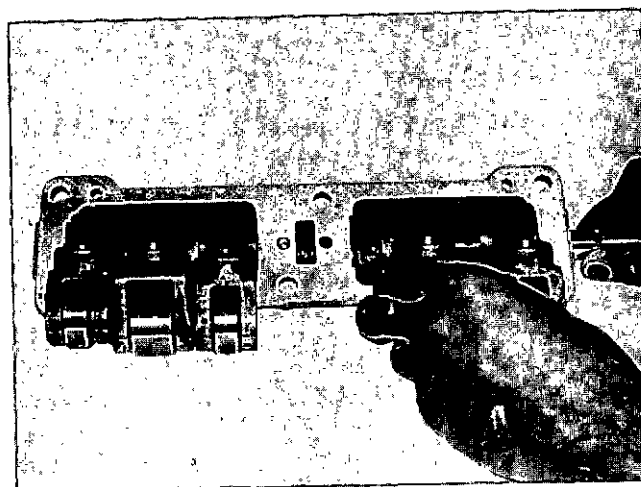

Fig. 4-15 (N10407). Assemble The Levers And Shafts Into The Housing.
2. Assemble the levers and shafts in the housing, Fig. 4-15. Make sure the lever for the injector is in the center position in each assembly.